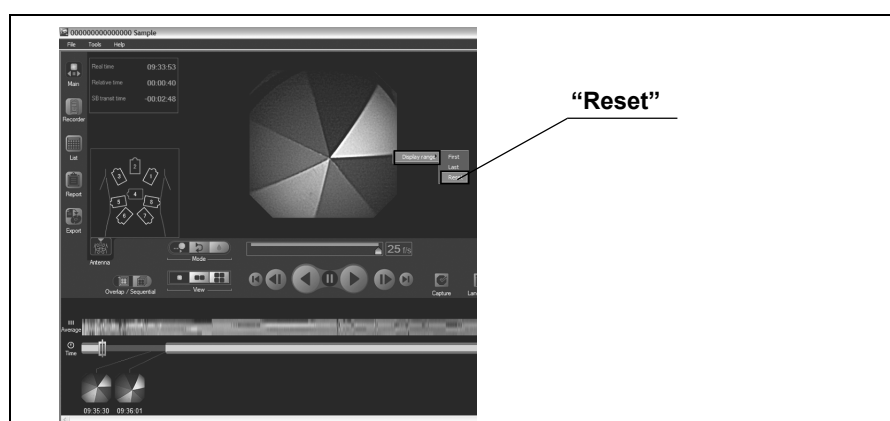

Figure 6.105
6. To reset the display range, right-click on an image and select “Reset” from “Display range” in the context menu (see Figure 6.105).